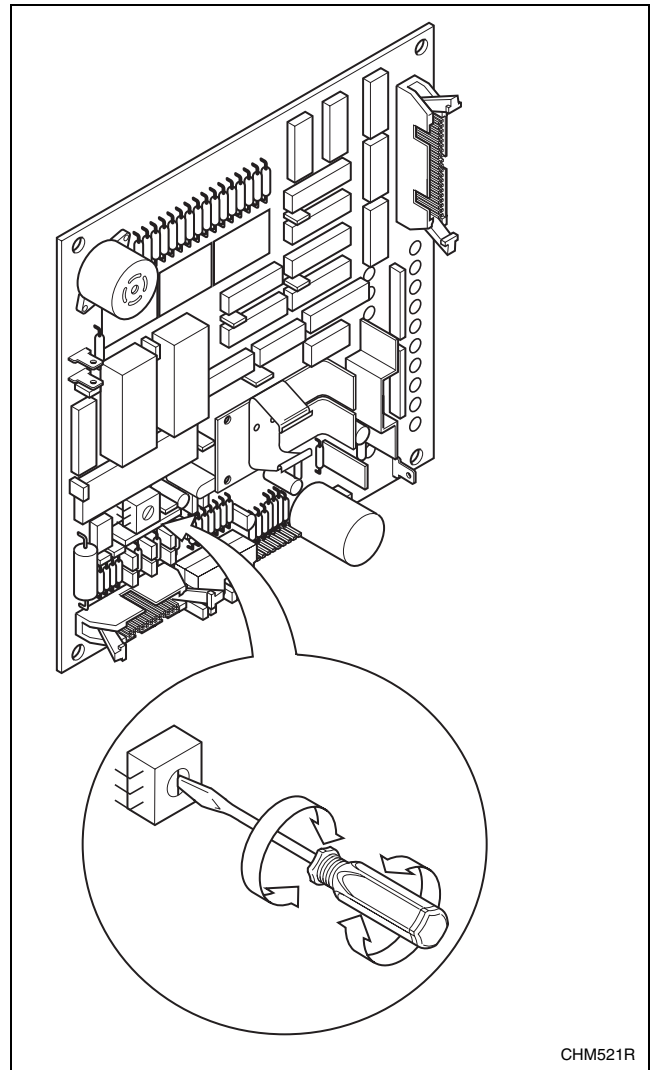

Figure 2
- Using a flat-bladed screwdriver, turn the machine temperature calibration screw until the displayed temperature of the machine and the temperature of the temperature calibration equipment are accurate to the nearest degree (refer to *Figure 2*).